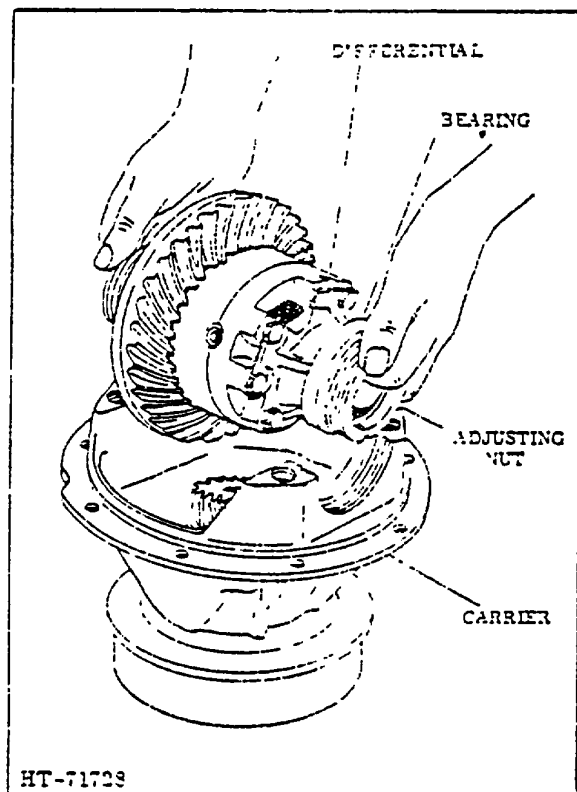

Figure 15. Removing Differential from Carrier
10. Refer to Figure 15 and remove the differential case assembly along with the adjusting nuts, bearings and bearing cups.
1. Refer to Figure 15 and install the differential case assembly along with adjusting nuts, bearings and bearing cups in the same relative positions as these components were prior to removal.